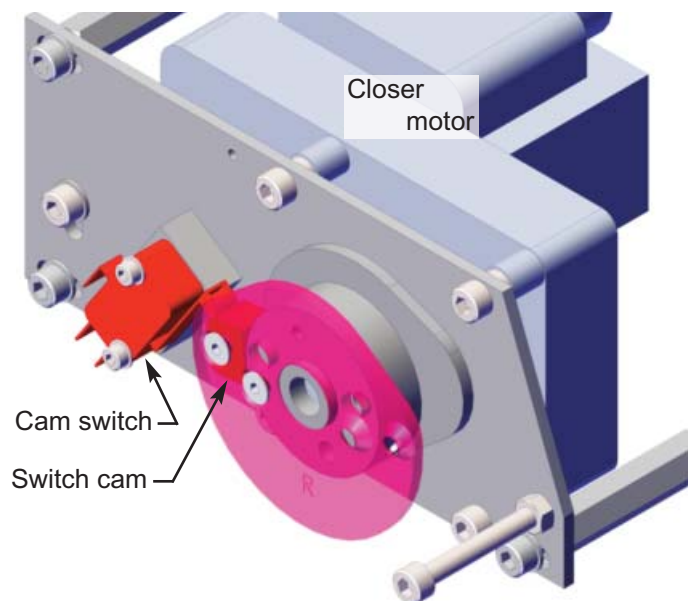

Figure 3.15
6. If the switch cam (Figure 3.15) has been removed, remount it after the cam and hub have been connected. Square up the switch cam to the cam hub and then tighten into place.
N. CAM SWITCH MOUNTING: Figure 3.15